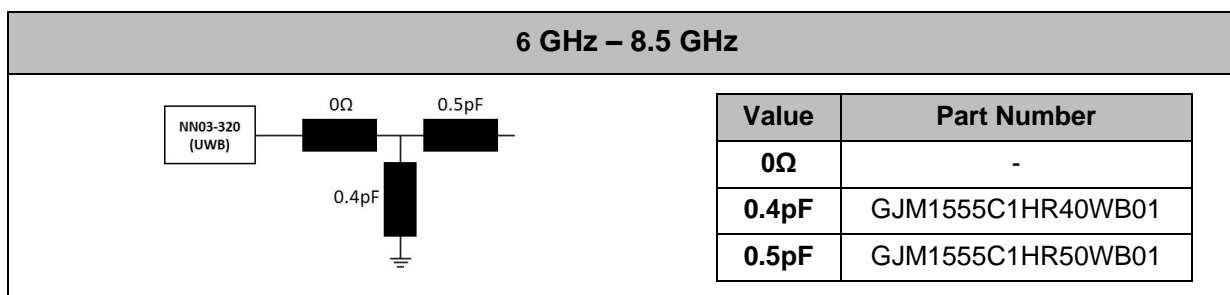

Figure 2 – Matching network implemented in the Evaluation Board (Figure 1) for covering the frequency region from 6GHz to 8.5GHz.
The antenna performance is **always conditioned by its operating environment**. Different devices with different printed circuit board sizes, components nearby the antenna, LCD's, batteries, covers, connectors, etc. may require retuning the matching network for best RF performance. Accordingly, it is highly recommended placing pads compatible with 0402 and 0603 SMD components for a matching network as close as possible to the feeding point of the antenna element in the ground plane area, not in the clearance area. This provides a degree of freedom to tune the DUO mXTEND™ antenna component once the design is finished and considering all elements of the system (batteries, displays, covers, etc.). To ensure optimal results, the use of high-quality factor (Q) and tight tolerance components in the matching network is highly recommended (e.g., Murata components (Figure 2)).
Figure 3 – VSWR and Total Efficiency for the UWB High Frequency Response (6.0 GHz – 8.5 GHz) from the Evaluation Board (Figure 1) with the matching networks in Figure 2).
Table 2 – Antenna gain and total efficiency from the Evaluation Board (Figure 1) for 6GHz – 8.5GHz with the matching network of Figure 2.
The antenna performance is **always conditioned by its operating environment**. Different devices with different printed circuit board sizes, components nearby the antenna, LCD's, batteries, covers, connectors, etc. may require retuning the matching network for best RF performance. Accordingly, it is highly recommended placing pads compatible with 0402 and 0603 SMD components for a matching network as close as possible to the feeding point of the antenna element in the ground plane area, not in the clearance area. This provides a degree of freedom to tune the NANO mXTEND™ antenna component once the design is finished and considering all elements of the system (batteries, displays, covers, etc.). To ensure optimal results, the use of high-quality factor (Q) and tight tolerance components in the matching network is highly recommended (e.g. Murata components (Figure 2)).